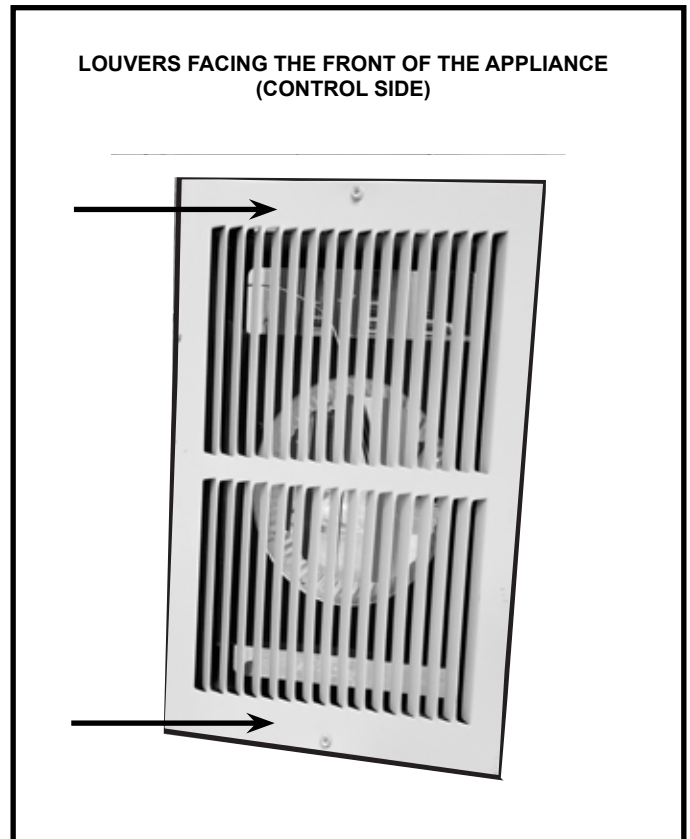

Figure 6.5 Correct Register Orientation
3. Install register cover with louvers facing the front of the fireplace (control side) using provided screws. See Figure 6.5.